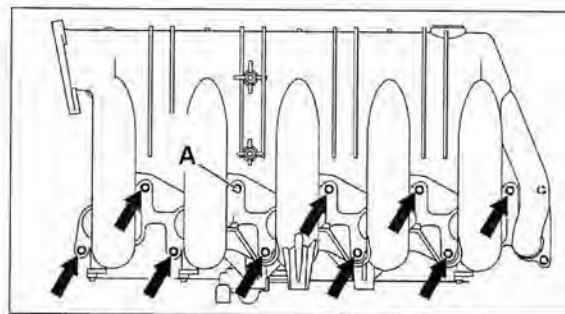

Figure 20
- Remove intake manifold bolts (arrows, Figure 20) securing intake manifold.
- Loosen bolt (A).
- Remove bolt (A, Figure 20) and remove intake manifold from engine.